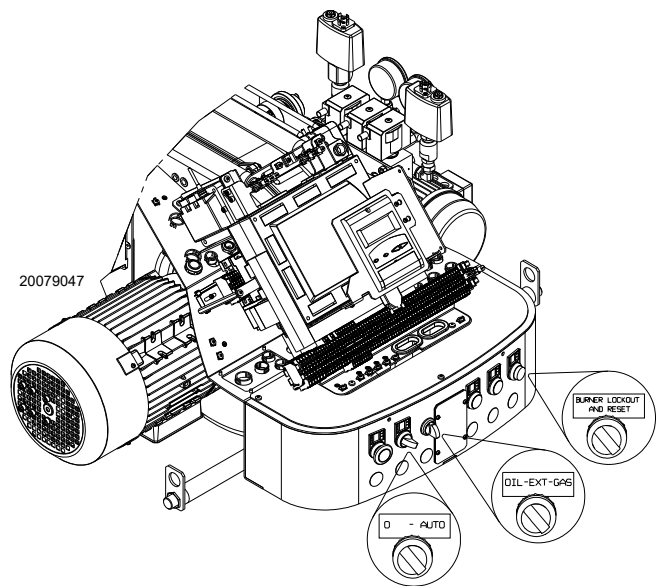

Fig. 32
Position the selector "OIL-EXT-GAS" (Fig. 32 on page 34) on "OIL" to select the light oil fuel.
Close the thermostats/pressure switches and set the switch of Fig. 32 on page 34 to "AUTO".
- put the switch of Fig. 32 to "0" and wait until the control box carries out the switching off phase;
Close the remote controls and position the selector (Fig. 32 on page 34) on "ON".
Put the selector (Fig. 32 on page 34) on "GAS" to select gas as the fuel.
- 1 with selector (Fig. 32 on page 34);
Positioning the selector (Fig. 32 on page 34) to "EXT" activates the remote selection of the fuel. In this position, if there is no remote selector, the display shows the priority fuel.